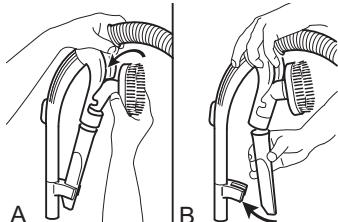

Fig. 10
- Push the 2-in-1 combi-nozzle into the accessories mount (Fig. 10/A).
- Push the crevice nozzle onto the accessories mount and attach it so it clicks audibly and noticeably into place (Fig. 10/B).